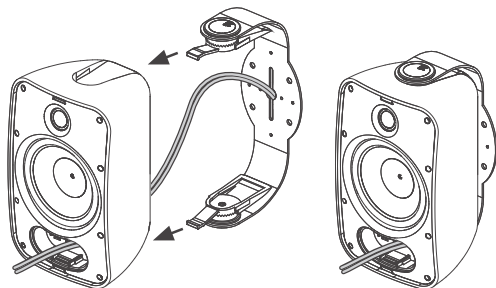

Figure 7: Attach Speakers to Brackets
5. Slide the speaker onto the bracket and firmly snap into place at the top and bottom of speaker. Pull enough wire through the front of the speaker to allow connection to the terminals (see figure 7).